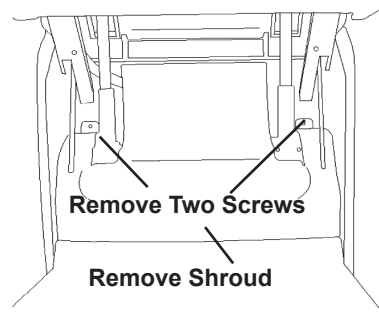

Figure 44.
2. Remove shroud below seat to expose actuators and control box. (See Figure 44.)